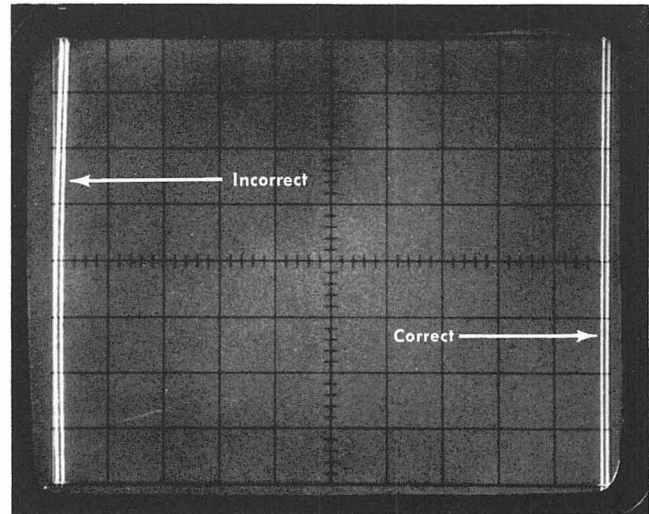

Fig. 5-3. Typical display when checking geometry.
e. CHECK—Bowling of display must not exceed 1 mm. See Fig. 5-3.